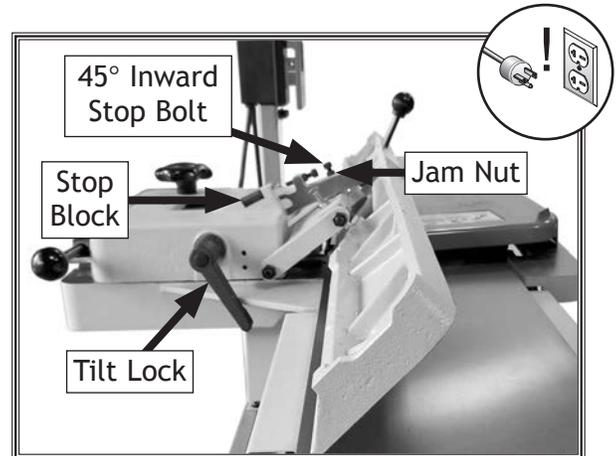

Figure 53. Fence set to 45° inward.
2. Loosen fence tilt lock, rotate stop block up, then tilt fence approximately 45° inward onto stop bolt (see Figure 53).
4. Loosen jam nut on 45° stop bolt and adjust stop bolt until fence is exactly 45° inward while resting on stop bolt (see Figure 53). Verify angle, then retighten jam nut.